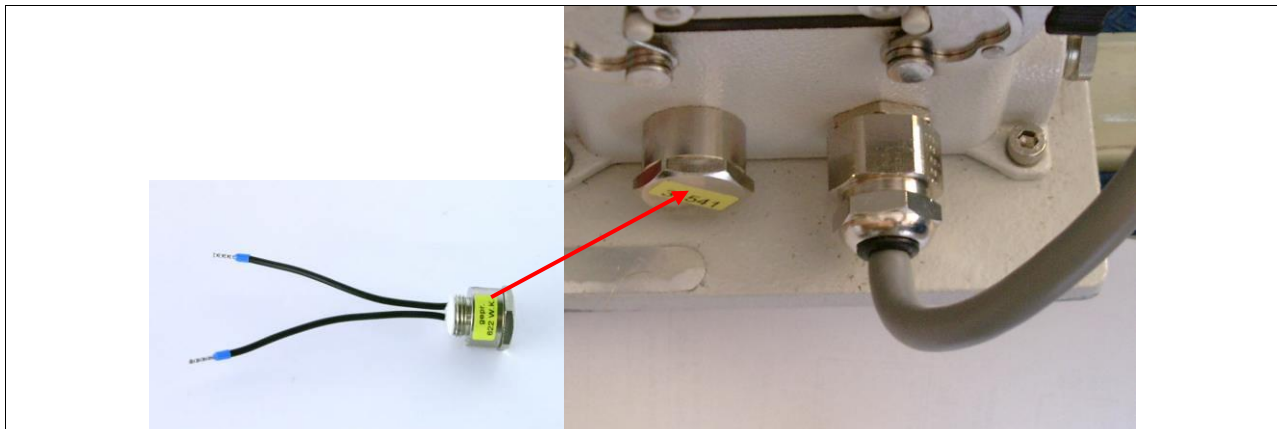
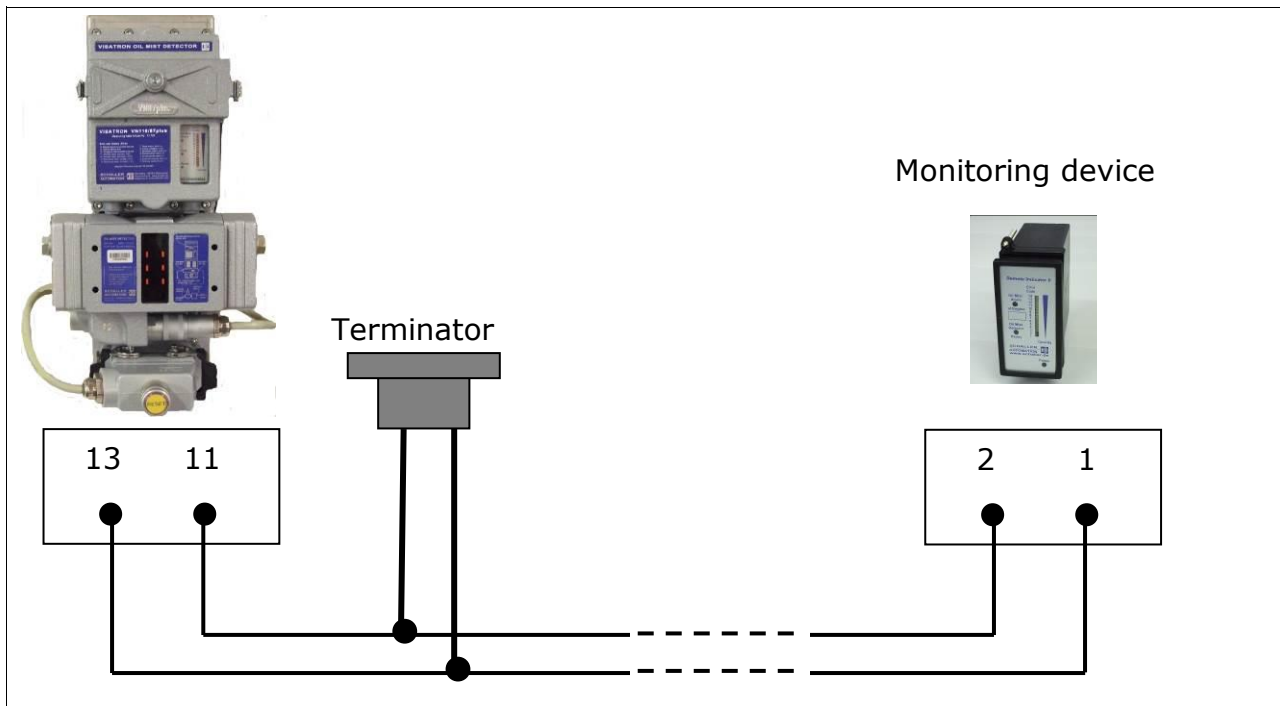

Figure 26: Cable entry and bus-terminator on the bottom side of the VISATRON® device
Figure 27: Wiring diagram to connect Remote Indicator II
The connection to the monitoring devices is accomplished via a RS485 two-wire bus. In case of a Remote Indicator II the connection is only a two point link. The bus system at the OMD device must be terminated by the resistor. It is integrated in the terminator (see Figure 26+Figure 27), which is supplied with the monitoring device.
The used communication cable must be twisted pair and shielded. We recommend LAPPKABEL UNITRONIC-FD CP (TP) plus UL-CSA, AWG20. The total bus length is limited to 400 m. The VISATRON® device cable entry (see Figure 26) at the VISATRON® device is designed for cable diameter between 7.5 and 10.0 mm.
The connection between the OMD device and the monitoring device for standard applications is shown in the following wiring diagram (see Figure 27)